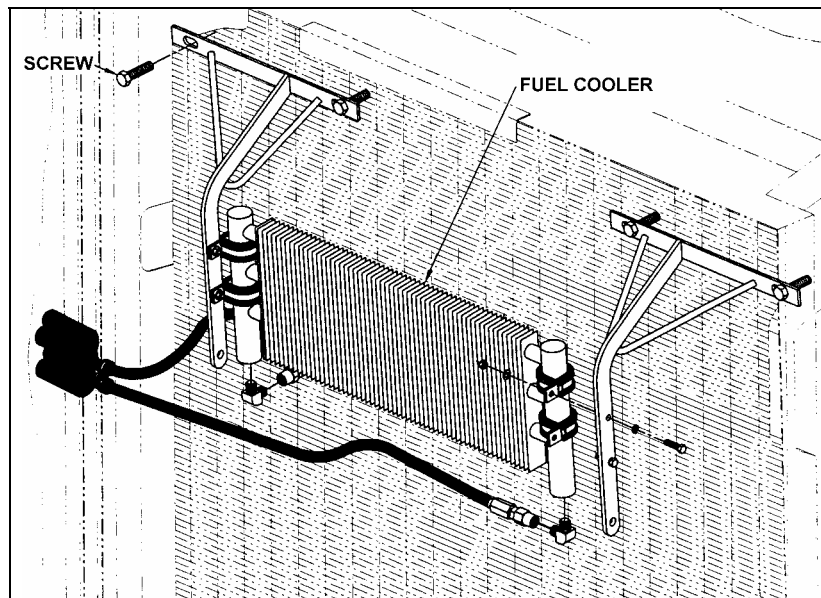

FIGURE 2: FUEL COOLER
2. Remove screws, rivets and bolts securing air inlet flexible deflector. Take the flexible deflector out and put fuel cooler aside (refer to fig. 2).